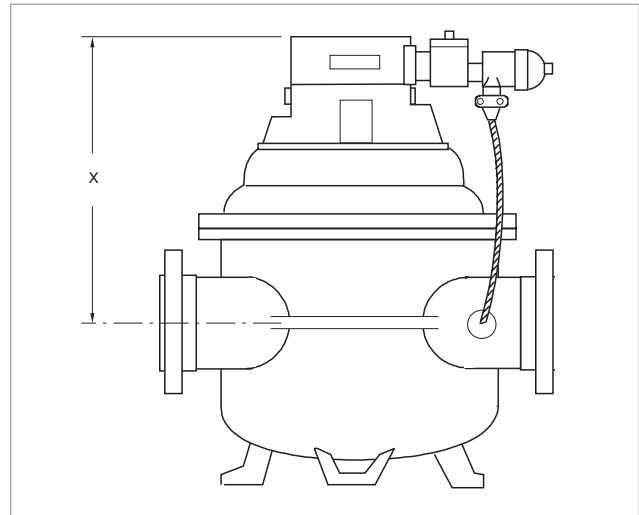

Figure 7 – X-Dimension in inches
Meters supplied with ATG are higher than those with standard calibrators. Distances shown are from center line of flange to top of meter (X) - see figure 7. For other dimensions, refer to appropriate meter bulletin.